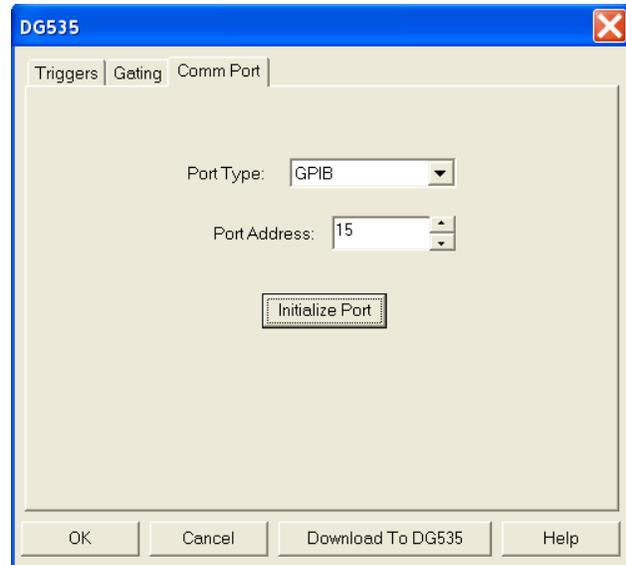

Figure 127. DG535/Comm Port tab
5. Click on the **Comm Port** tab (Figure 127).